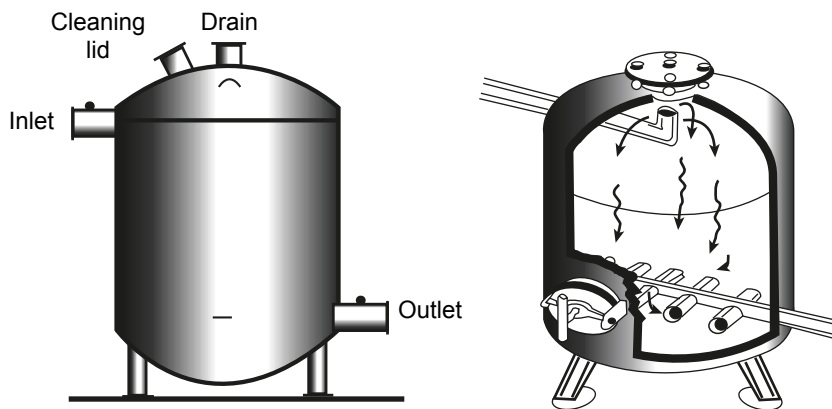

Fig. 7. Sand media filter.
- **Sand media filters** contain a vertical cylinder with graded sand inside (Fig. 7). This cylinder efficiently separates organic material (algae, leaves, etc.) and fine sediment, so it often is used to filter water from surface sources such as lakes, rivers or canals. Multiple cylinders can be back-flushed either manually or automatically.